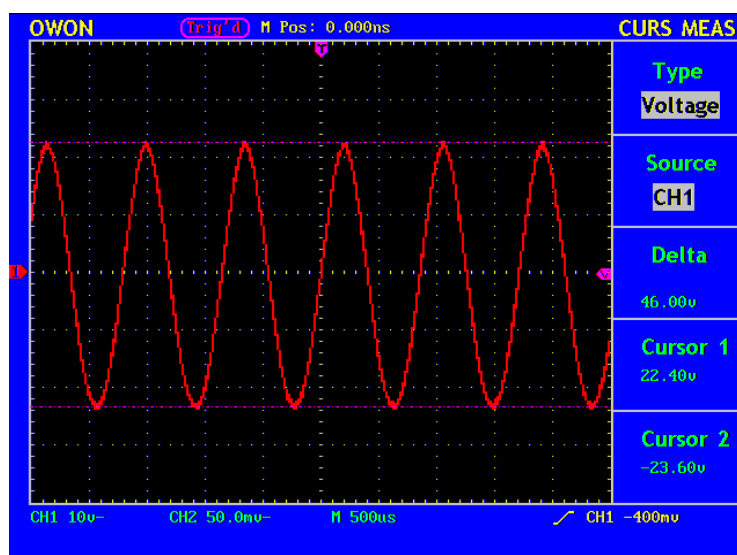

Fig.52 Voltage Cursor Measurements
- Press **F2** to select **CH1** as the **Source**. The results are shown on the screen. (see Fig.52)